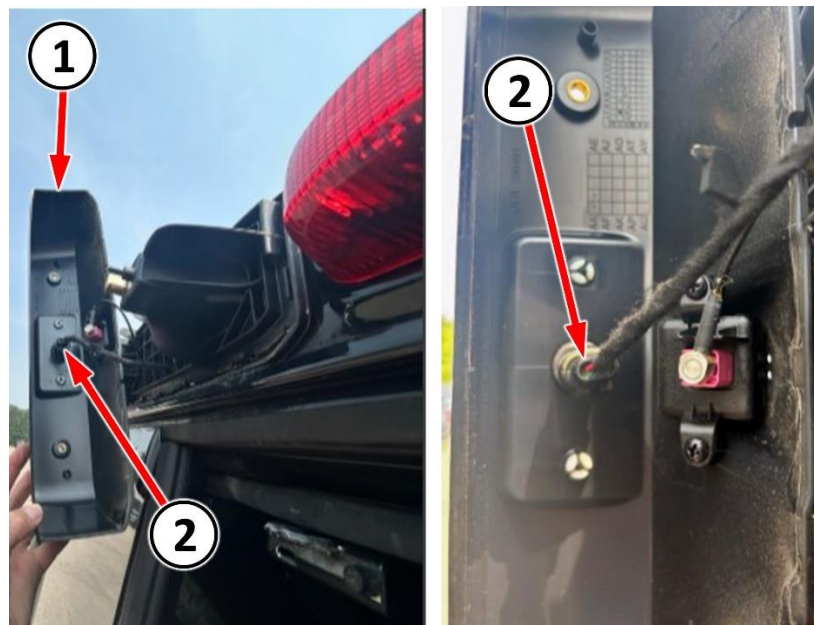

Figure 12 – Clearance Lamp Electrical Connector
9. Disconnect the wire harness connector (2) from the clearance lamp (Figure 12).
14. Connect the wire harness connector (2) to the clearance lamp (Figure 12).